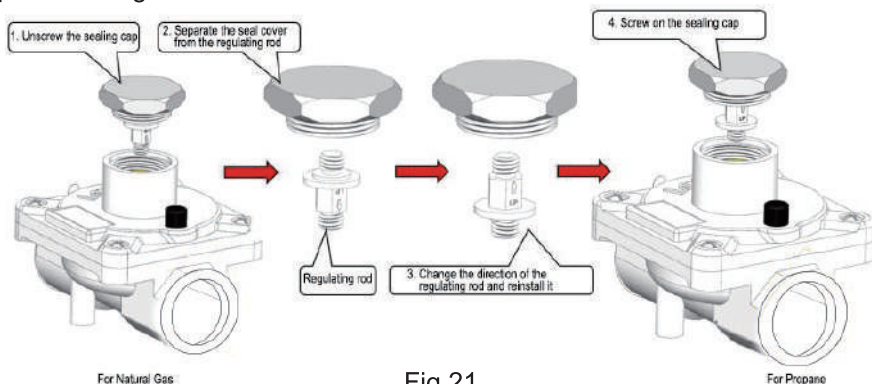

Fig.21
6. Test the outlet pressure, the pressure is required to be 10 ± 1 in w.c. If it cannot meet the scope of the requirements, need to unscrew the pressure regulator nut as Fig.21, rotate slightly to adjust the white plastic parts inside the pressure regulator.
8. Similarly, when use in NG status, turn the marked NG arrow upwards and tighten it to the screw cap(Fig.21). Repeat the above operation. The outlet pressure requires to be 4 ± 1 in w.c.